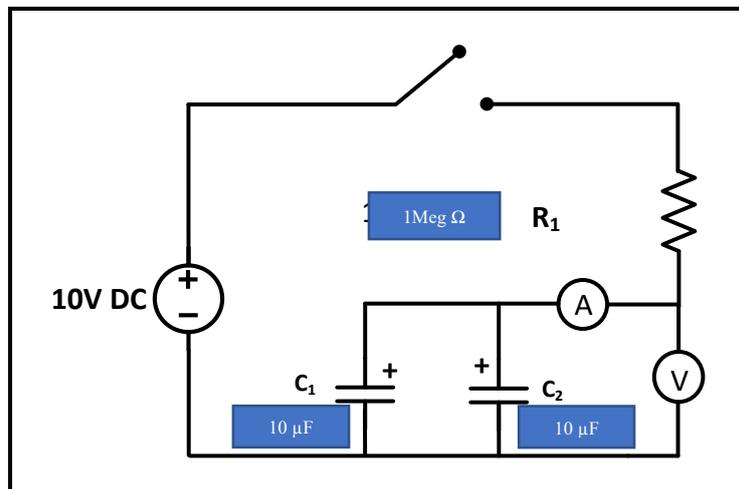

Figure 5.7
1. Connect the circuit of Figure 5.7 (note capacitor polarity), set voltmeter to 20 V range, set ammeter to 200 μA , and leave the power supply turned off (switch at 0 position).
2. Repeat steps (2-4) in previous part for the circuit of Figure 5.7 using the timing found in Table 5.4, record results in the same Table.